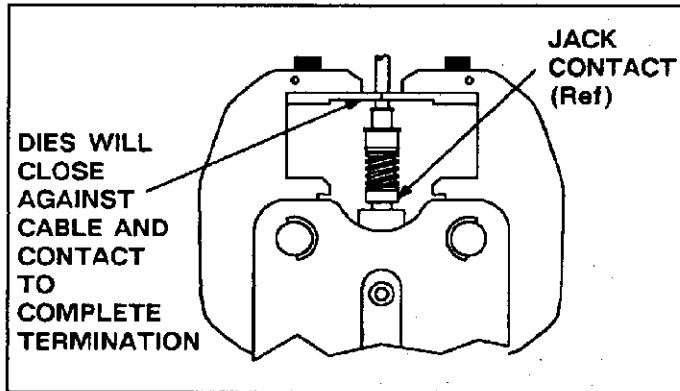

Fig. 6
5. Support contact assembly and squeeze tool handles together to complete the crimp. See Figure 6.